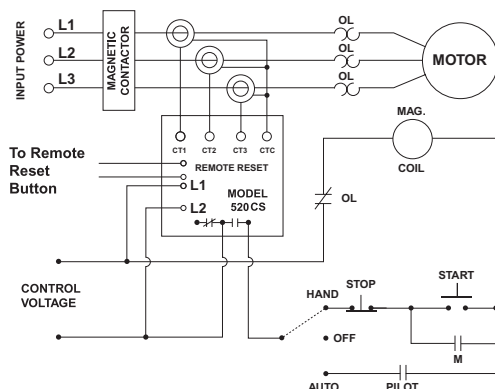

Figure No. 1: Typical Wiring Diagram.
- Connect the control panel power to L1 and L2 on MotorSaver's terminal strip. See Figure No. 1.
- Connect the MotorSaver's normally open output contacts in series with the magnetic contactor coil as shown in Figure No. 1.
- Ensure the proper Current Transformer (CT) size using Table 1.
- Connect each of the three black CT leads to one of MotorSaver's "CT1", "CT2" and "CT3" terminals. Connect the white CT leads together at MotorSaver's "CTC" terminal. See Figure No. 1.